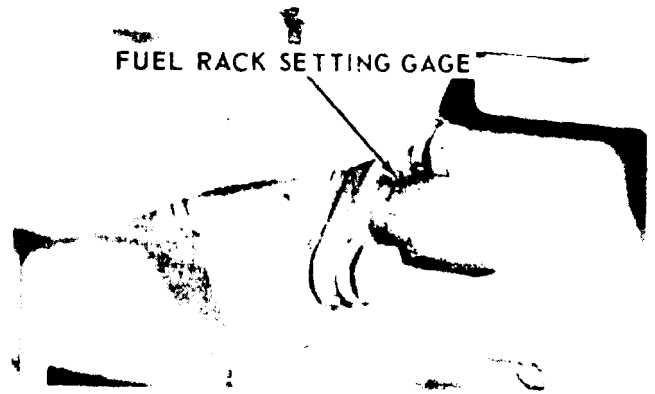
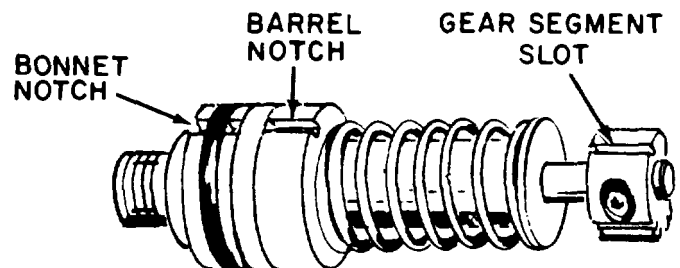
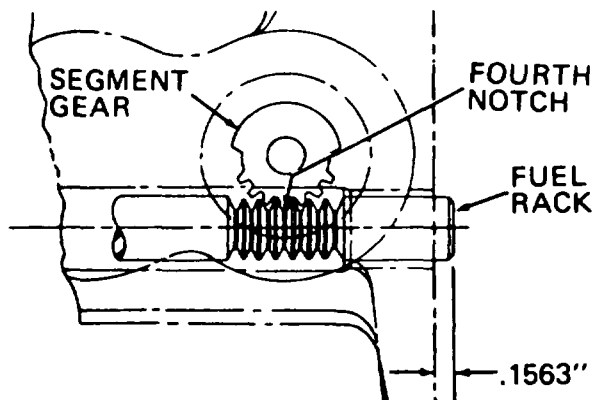

Figure 8-41. Installing regulator fuel rack
Figure 8-42. Fuel injection pump alignment
Figure 8-43. Correct position of gear segment and rack
b. Using a suitable installing tool, install camshaft bearing (63) so that hole in bearing aligns with oil passage in housing (76) and is flush with housing face.
c. Install fuel regulator rack bearings (62 and 65) so that groove in bearings aligns with scribe marks on housing (76). Bearing (65) must be installed  $0.195 \pm 0.005$  inch deep from the housing face.
d. Use a suitable fuel rack setting gauge when installing fuel regulator rack, figure 8-41. Position fuel regulator rack so that gauge indicates 0.00 inch.
pump, align the notches in the bonnet (44, figure 8-39), and barrel (51) with the alignment mark 180 degrees from the pump gear segment center tooth (figure 8-42). Position pump so that the notches align with the two locating dowel pins (70 and 72, figure 8-39) in the housing bore. Align the pump gear segment center tooth with fuel regulator rack center notch (figure 8-43). Install pump. Keep a downward force on the pump, and install bushing (42, figure 8-39) until flush with the top of the housing. If the bushing cannot be installed, this far by hand, remove bushing, realign component parts, and install again.
g. Measure the rack travel to make sure that the plunger gear segment is properly meshed with the fuel rack. The gear segment and rack are so constructed that the maximum travel of the rack in either direction can be obtained only when the fourth tooth of the gear segment is meshed with the fourth notch on the fuel rack (figure 8-43). If the gear segment is misplaced in either direction, the rack travel will be reduced in both directions. It is, therefore, necessary to measure the rack travel in only one direction to make certain that the gear segment is properly meshed with the fuel rack. This is measured by using the rack setting gauge (figure 8-41). The rack is moved to its extreme fuel on position. A minimum reading of +0.312 on the gauge indicates